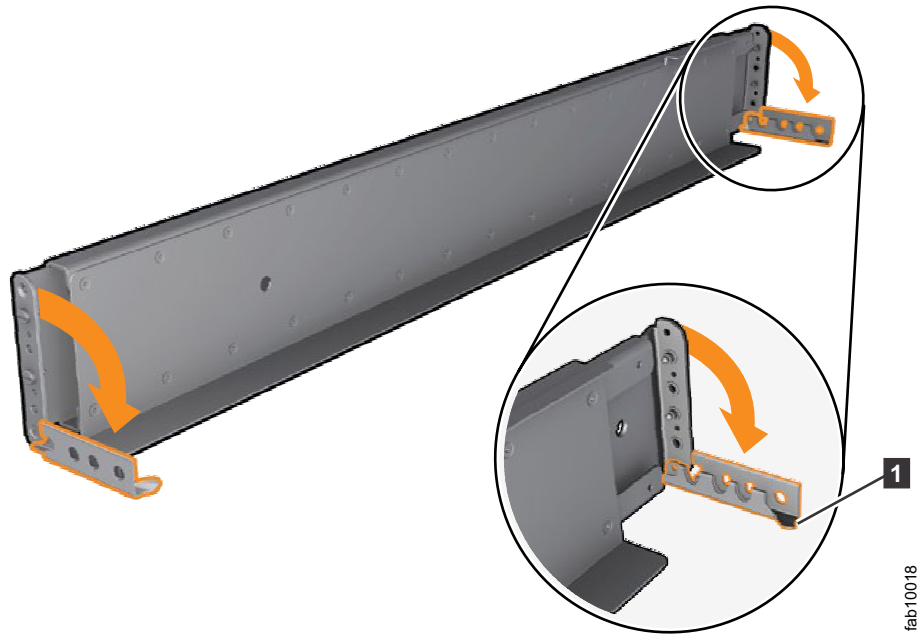

Figure 15. Opening the hinge brackets
5. At each end of the rail, grasp the tab **1** and pull *firmly* to open the hinge bracket (see Figure 15 on page 18).